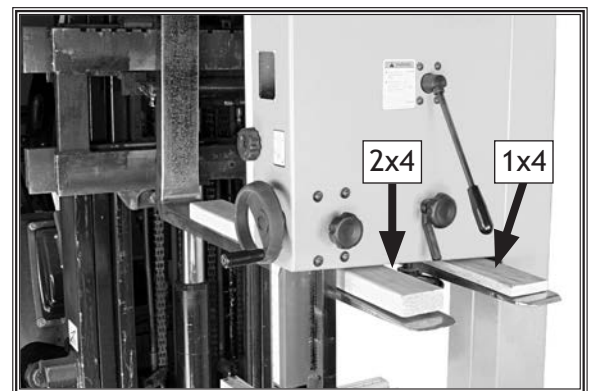

Figure 17. Example of lifting bandsaw with forklift using wood shims.
3. Carefully place forklift forks under bandsaw head. Insert a 1x4 block between head and left fork, and a 2x4 block between head and right fork so bandsaw is level, as shown in **Figure 17**.